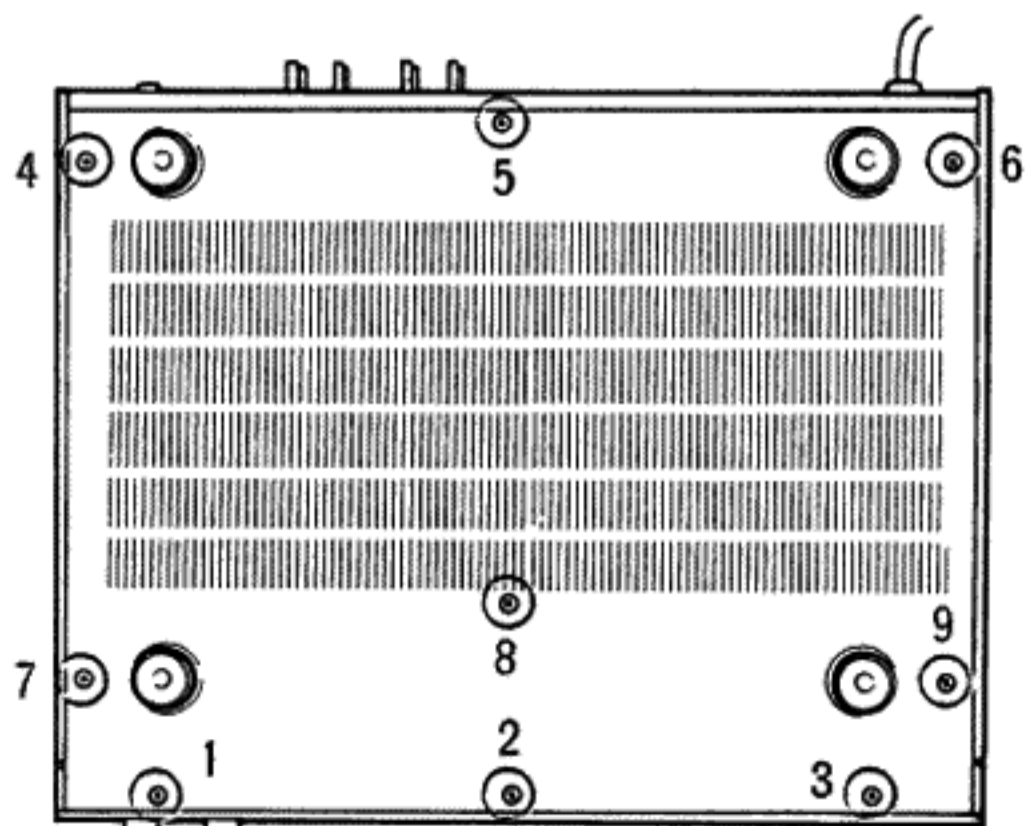

Fig. 2
Remove screws ① through ⑨ in Fig. 2 and then remove the bottom cover.
- b. Remove screws ① through ③ in Fig. 3 and screws ① through ③ in Fig. 2, the front panel may be lifted out forward gently. When is performed, the illumination lamp of the power switch must be disconnected.